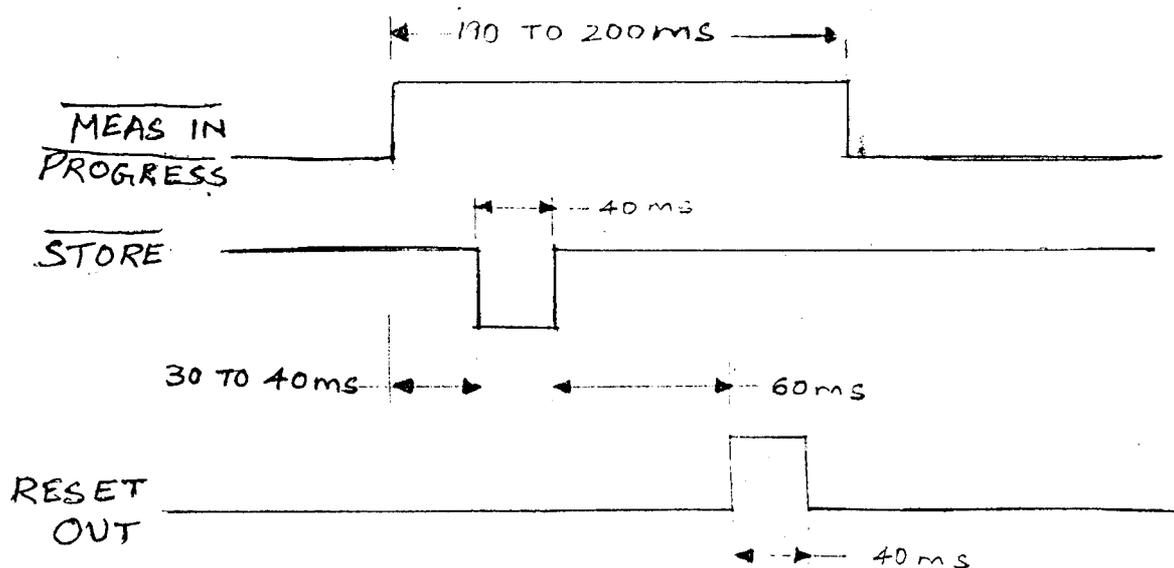

FIG. 5: RESET OUT, STORE and MEASUREMENT IN PROGRESS outputs between Measurements
- These Outputs are provided to facilitate external interfacing. Figure .5 shows the relationship between these signals during the time between measurements. All three outputs can drive a low power schottky TTL load. The MEASUREMENT IN PROGRESS Output can directly drive one ECL load, if the ECG device is powered from the same power supply as the ICM 7226.